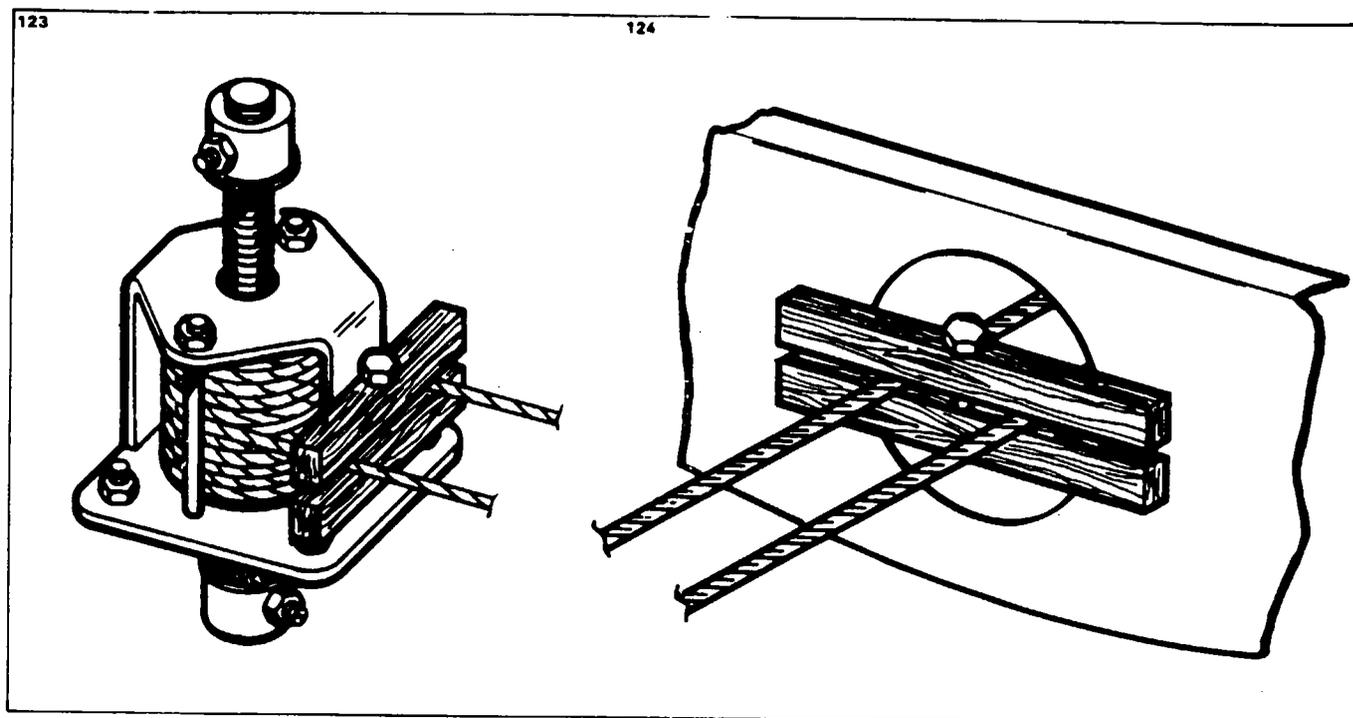

Figure 27-6. Methods of Blocking Trim Cables
**RIGGING AND ADJUSTMENT OF AILERON CONTROLS. (Refer to Figure 27-6.)**
9. Block the trim cables at the screw assembly within the control pedestal and within the wing at station 96.50, to prevent the cables from unwrapping from their drums, by one of the methods shown in Figure 27-6. (If the trim assembly within the wing is also to be removed, then remove the access plates at wing station 171.00 and block the cables at the trim screw assembly.)